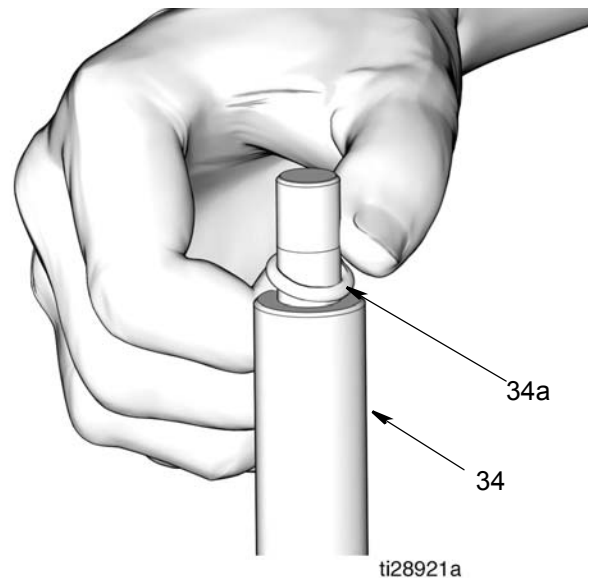

FIG. 25
- Dispose of piston seal (4) and o-ring (34a) and nut (37) according to all regulations for proper disposal.
21. Use a pick to remove o-ring (34a) from piston rod (34) (FIG. 25).